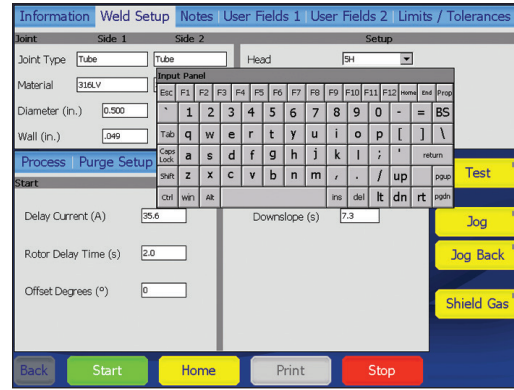

Fig. 15—Onscreen Keyboard
- Use the onscreen keyboard (Fig. 15) as you would a computer keyboard.